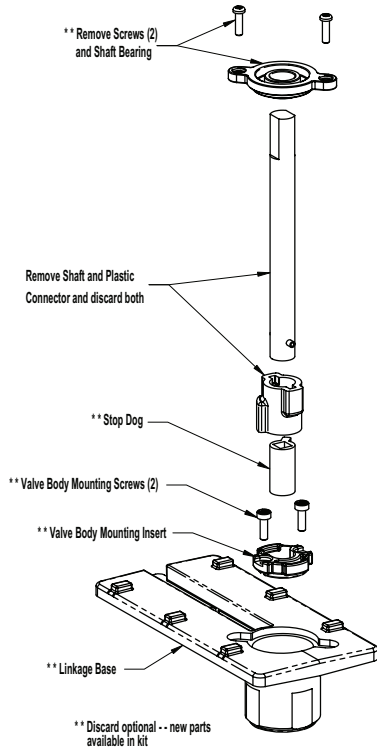

Figure-1 Existing Linkage
3. Disassemble the existing valve linkage (refer to Figure-1). Note that the Linkage Base, Valve Body Mounting Insert and (2) Valve body Mounting screws need not be replaced unless damaged. If the Linkage Base is replaced, note the orientation of the long end with respect to the valve and install the new Linkage Base with the same orientation.